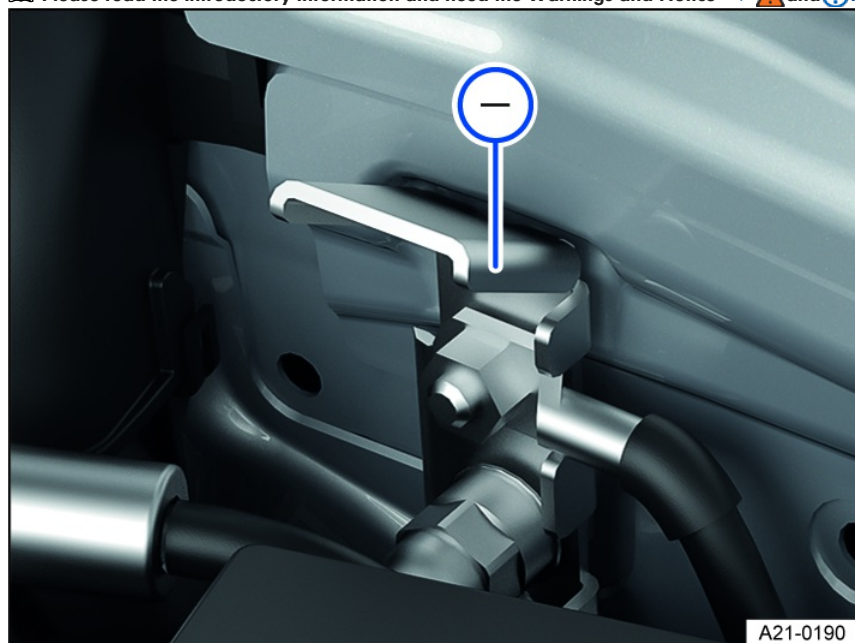

Fig. 193 In the engine compartment: Negative terminal jump-start point.
□ The jump-start point (negative terminal) is for connecting the black jumper cable *fig. 193*.